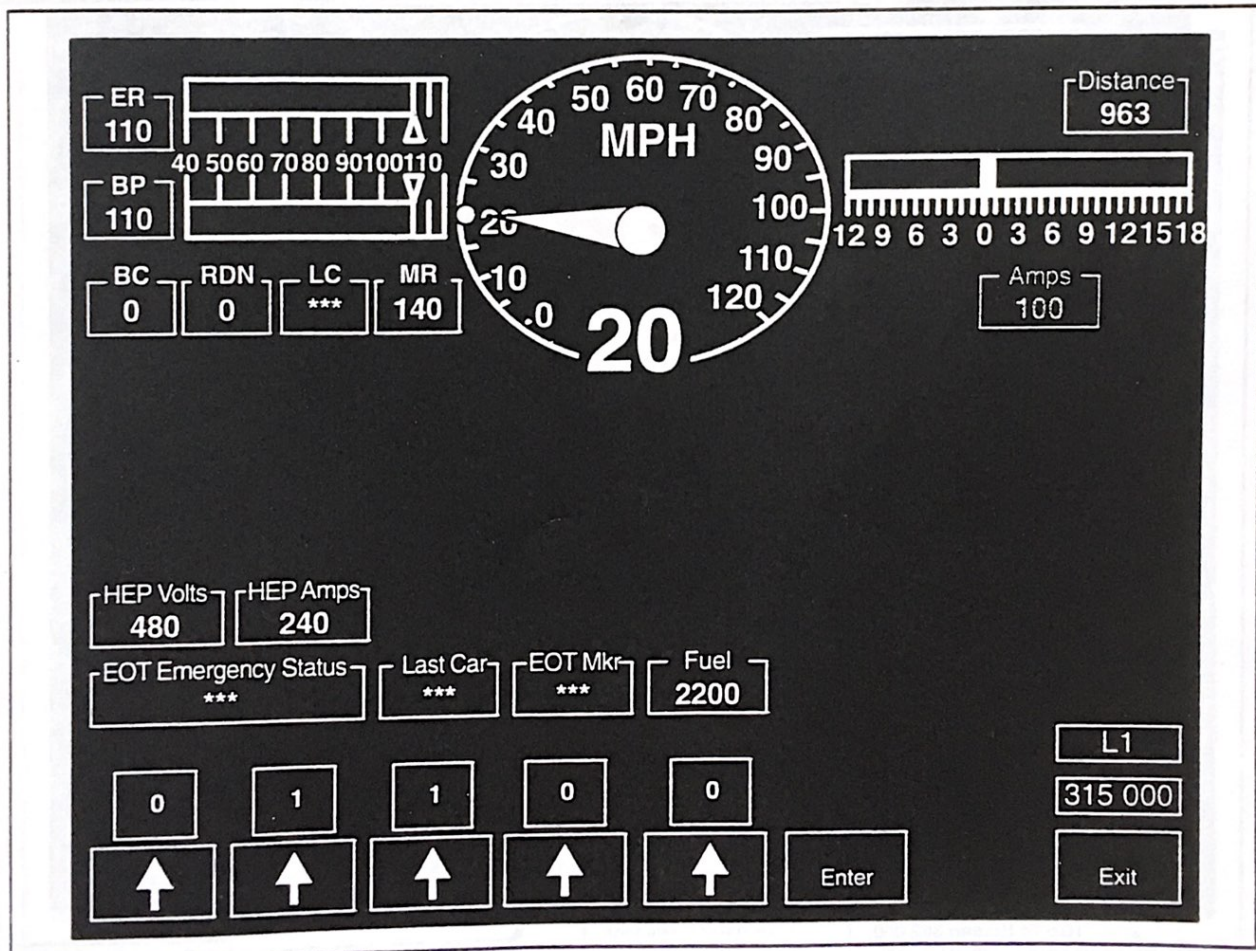

FIG. 64. DISTANCE COUNTER PRESET SCREEN (315 000). E-42583.
5. Press key position F5 (**Preset Counter**) will display screen 315 000 (Fig. 64). **Note: This key is only active if the counter is stopped.** The active keys and a brief description of operation are as follows: